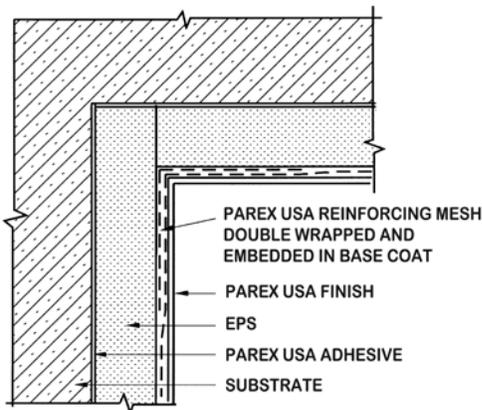

Fig 12.7
(1) Apply a primary layer of basecoat wide enough to accommodate ParexUSA 356 Short Detail Mesh. Embed the mesh into the fresh basecoat, then apply the 355 Standard Mesh around the corner so there is a double layer of mesh (Fig 12.7).